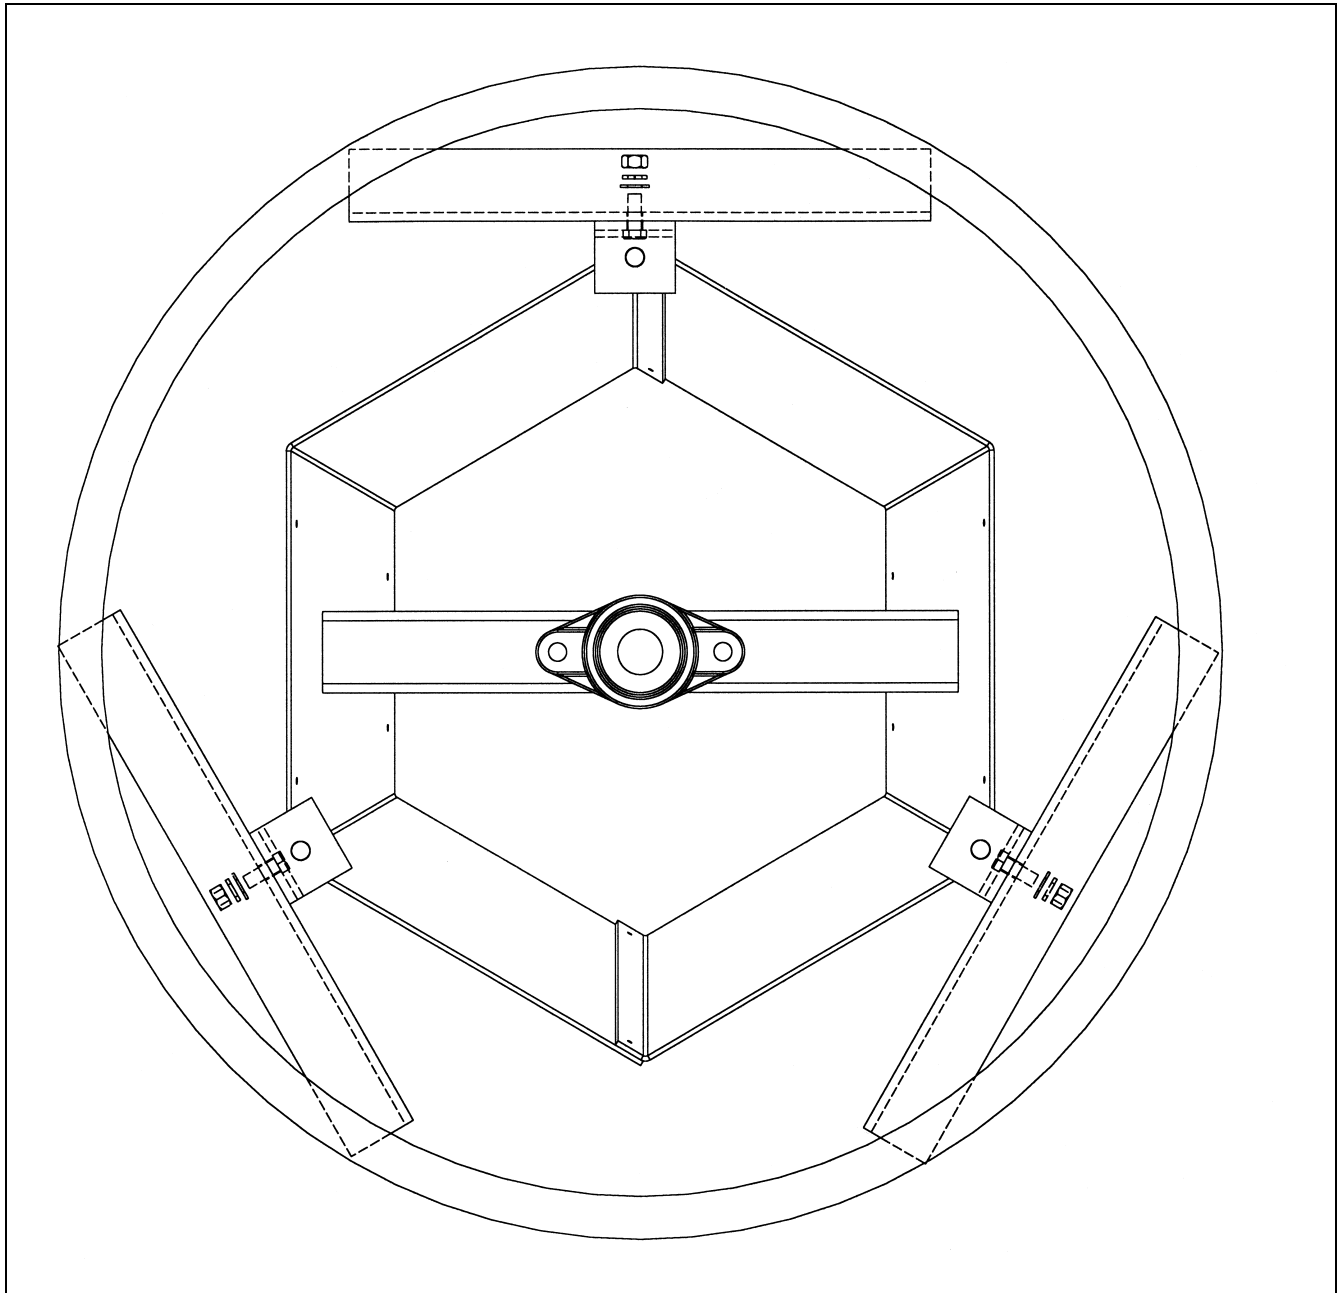

Figure 2B Model 10000 Installation
1. Assemble the center shaft (3072024-Y) and chute to the bottom of main chute (3072020-Y) with six (6) 3/8" x 1" bolts, lock washers and nuts.
2. Attach the counterweight support tube (3072013-Y) to the back of the main chute with two (2) 3/8" x 1" bolts, lock washers and nuts.
3. Slide the counterweight support channel (3072009-Y) over the shaft extending out of the center chute and fasten to the bottom of the main chute with two (2) 5/16" x 1" carriage bolts, flat washers, lock washers and nuts. Attach the other end of the channel to the counterweight tube with a 3/8" x 3-1/2" bolt, lock washer and nut.
4. Assemble two (2) 1-1/4" bearings (PT0140) with cast housings to the top of the channels in the spreader hopper with four (4) 7/16" x 1-1/2" bolts, lock washers and nuts. Do not tighten the mounting bolts at this time.
6. Tighten the mounting hardware for the two (2) bearings and lift the hopper up on the shaft as far as possible. Lock the bearings in place by tightening the locking collars in a counterclockwise direction when viewed from the top of the hopper.
7. Thread a 1/2" nut and flat washer onto each of the three (3) studs on the top of the hopper. Attach a angle hanger (3072014-Y) to each stud and secure with a flat washer and 1/2" nut.
8. Build a frame into the top and center of the bin to support the spreader. The outside face of the three (3) angle hangers on the hopper form a 21" diameter circle so the frame should be constructed in a triangle to allow the angle hangers to be bolted directly to the frame with three (3) 3/8" x 1" bolts, flat washers, lock washers and nuts. \(See Figure 2B on Page 12.\)